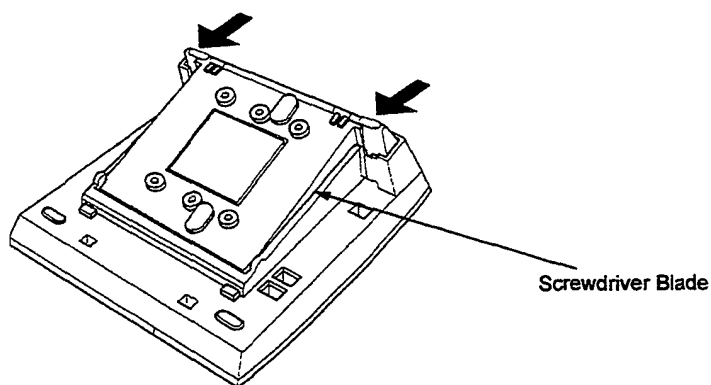

Figure 4-12 Removing the Cover on the Multiline Terminal
3. Remove the cover by pressing the areas indicated by arrows in Figure 4-12 Removing the Cover on the Multiline Terminal. Using a straight blade screwdriver, press the blade between the cover and the base to release the tabs (refer to the diagram). When both tabs are released, lift the cover.